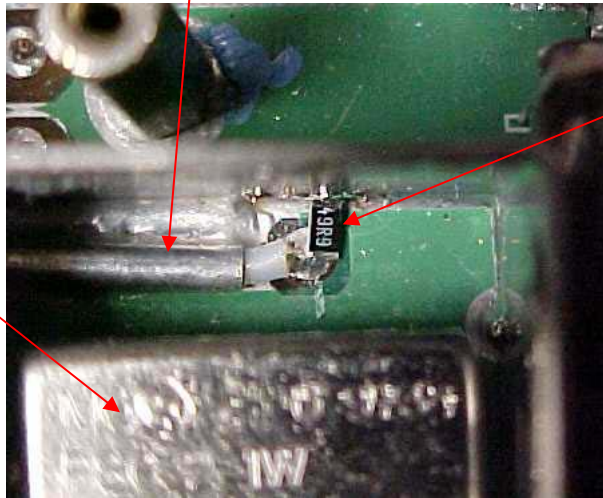

Figure 2
4. Solder one end of Item 2 (R500) from the center conductor of the Guard Receiver input coax of PS1. Solder the other end to the adjacent shield. See Figure 2.